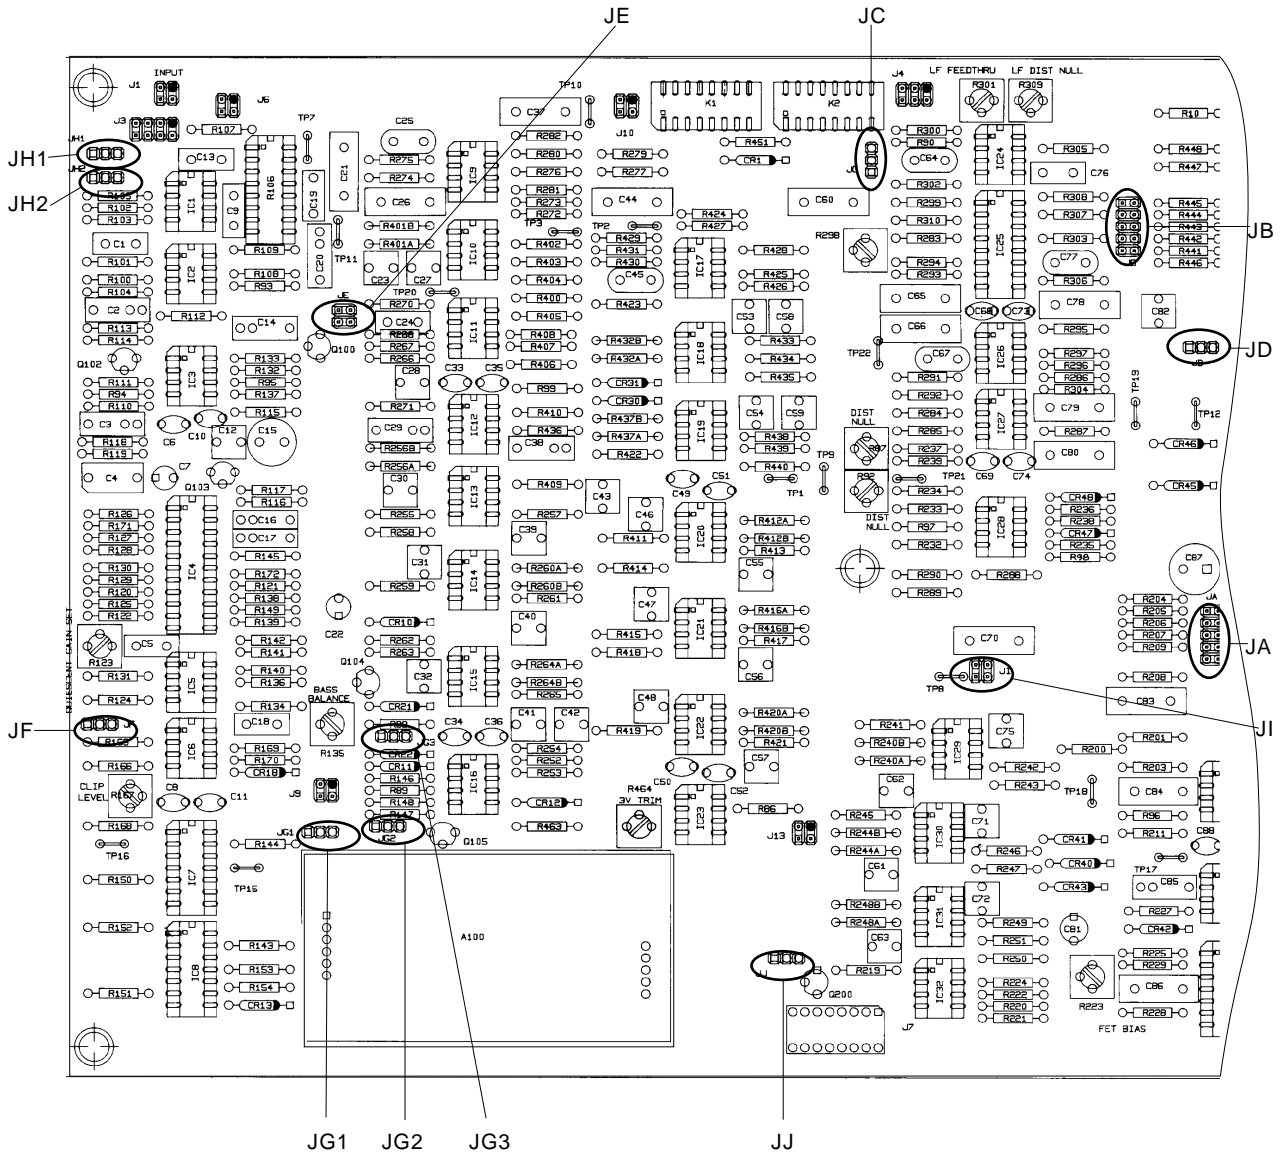

Figure 2-14: 4000 Jumpers
- B  Refer to Figure 2-14 for jumper locations.